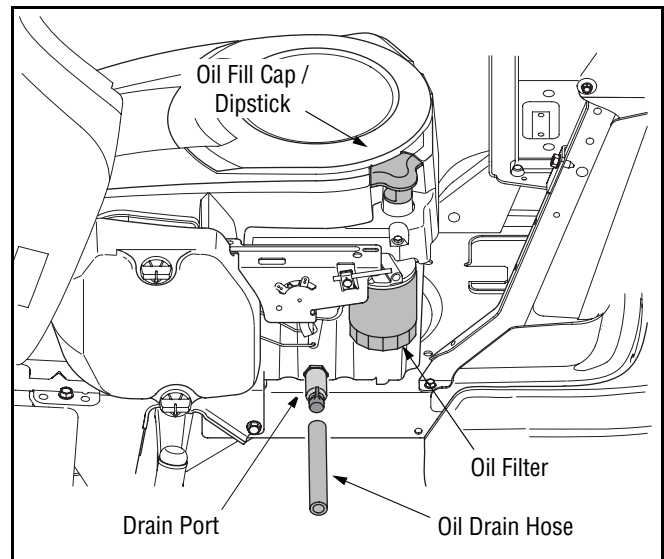

Figure 15
1. Pop open the protective cap on the end of the oil drain valve to expose the drain port. See Figure 15